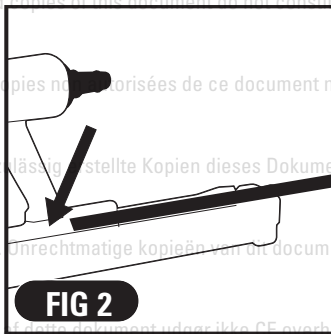

FIG 2
2. With magazine fully open, insert fasteners. Points must be against bottom of magazine. (Fig. 2)